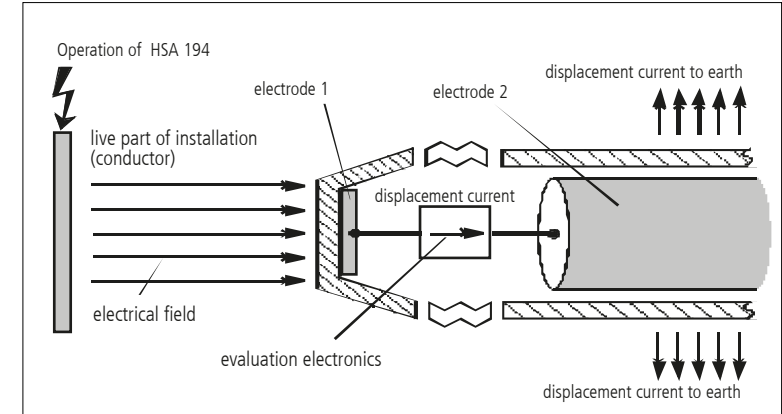

Fig. 4: Functional principle
- 3.1 If the operating head of the voltage detector is placed in such an alternating electrical field, a displacement current (capacitor principle), which is evaluated and indicated (visually and acoustically) by the downstream electronic system, flows via the measuring electrodes E1 and E2 (Fig. 4).